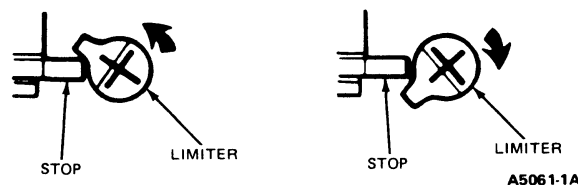

FIG. 8 Idle Mixture Limiter Screw Positions
9. Position idle mixture limiter cap(s) in the maximum rich position. (See Fig. 8.) Idle mixture screw(s) without limiter caps must be turned in to seat lightly and then turn screw out approximately 1-1/2 to 2 turns.